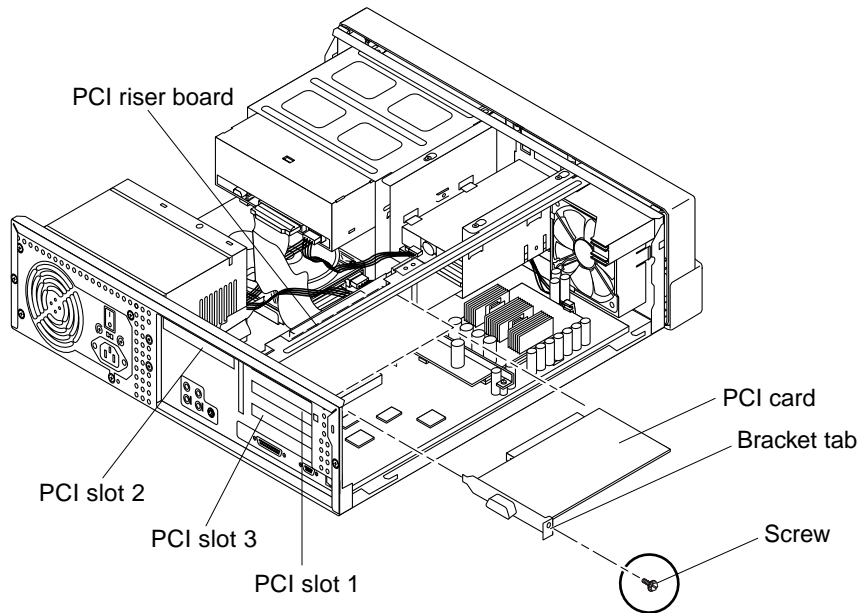

FIGURE 8-4 Removing and Replacing a PCI Card From PCI Slot 1 or 3
3. **Remove the PCI card from PCI slots 1 or 3 as follows (FIGURE 8-4):**
2. Replace the PCI card into PCI slot 1 or 3 as follows (FIGURE 8-4):